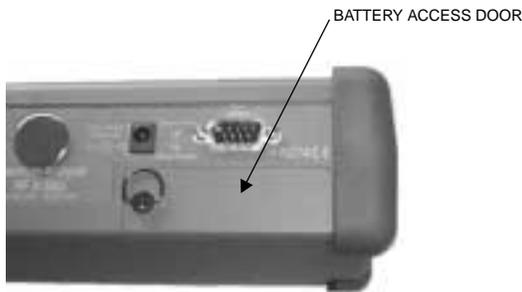

Figure 5. Battery Access Door Location
1. With the Spectrum Analyzer standing upright on a stable surface, locate the battery access door (Figure 5).